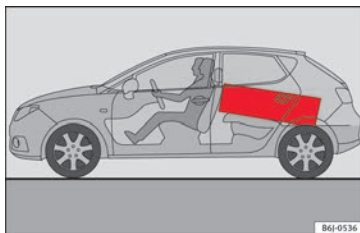

Fig. 138 Position heavy items as far forward as possible.
- Place heavy objects as far forward as possible in the luggage compartment »» Fig. 138.